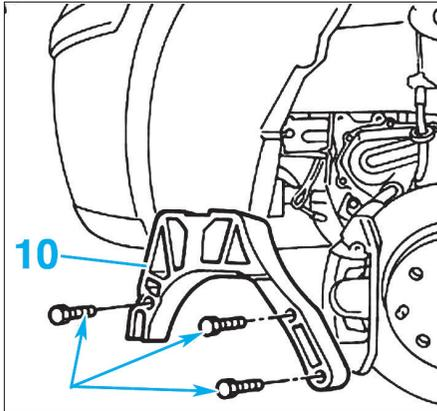

FIG. 6
- Déposer le support (10) (Fig.6).